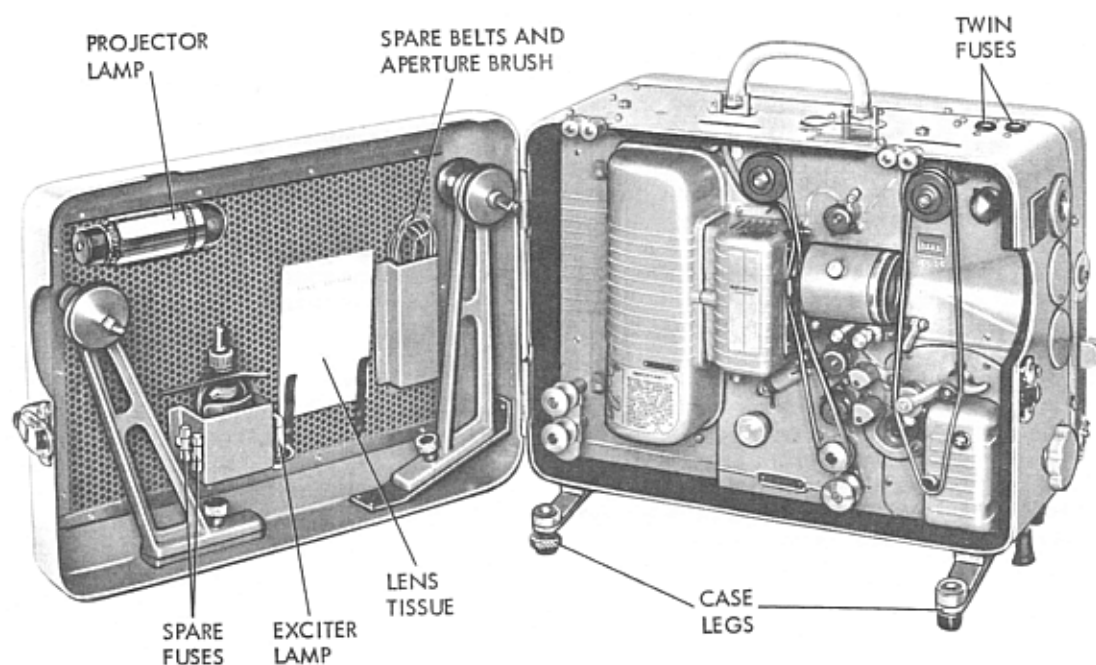

Figure 1-2A. Type AQ-2A(3) 16mm Projector with Case Door Open
These instructions cover two variations of the Type AQ-2A(1) projector, which differ primarily in electrical circuitry (figures 4-9 through 4-12). The latest of these projectors, bearing serial numbers P99000 through P99576, are equipped with an octal plug (P102) and socket (J205) to facilitate conversion to magnetic sound reproduction. The AQ-2A(3) projector is very similar electrically to the latest AQ-2A(1) equipment, but has additional electrical refinements as noted in figures 4-13 and 4-14. Also note, in figure 1-2A, the twin fuses and the altered case leg design.